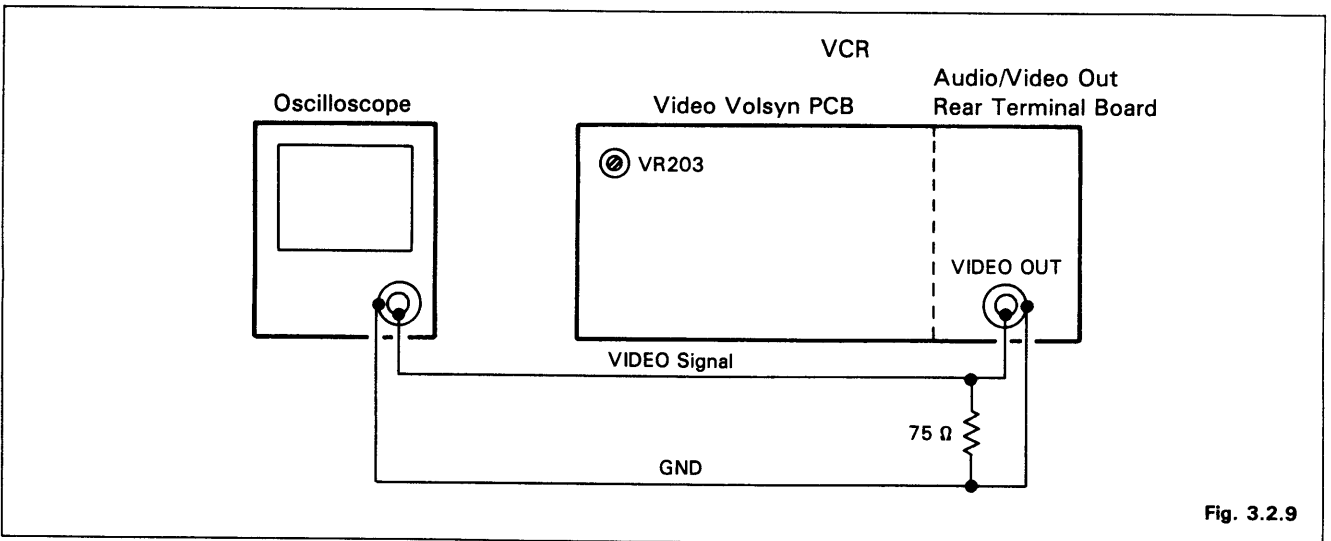

Fig. 3.2.9
- Note:** Terminate the VIDEO OUTPUT terminal with a 75 Ω resistor. (Refer to Fig. 3.2.9)